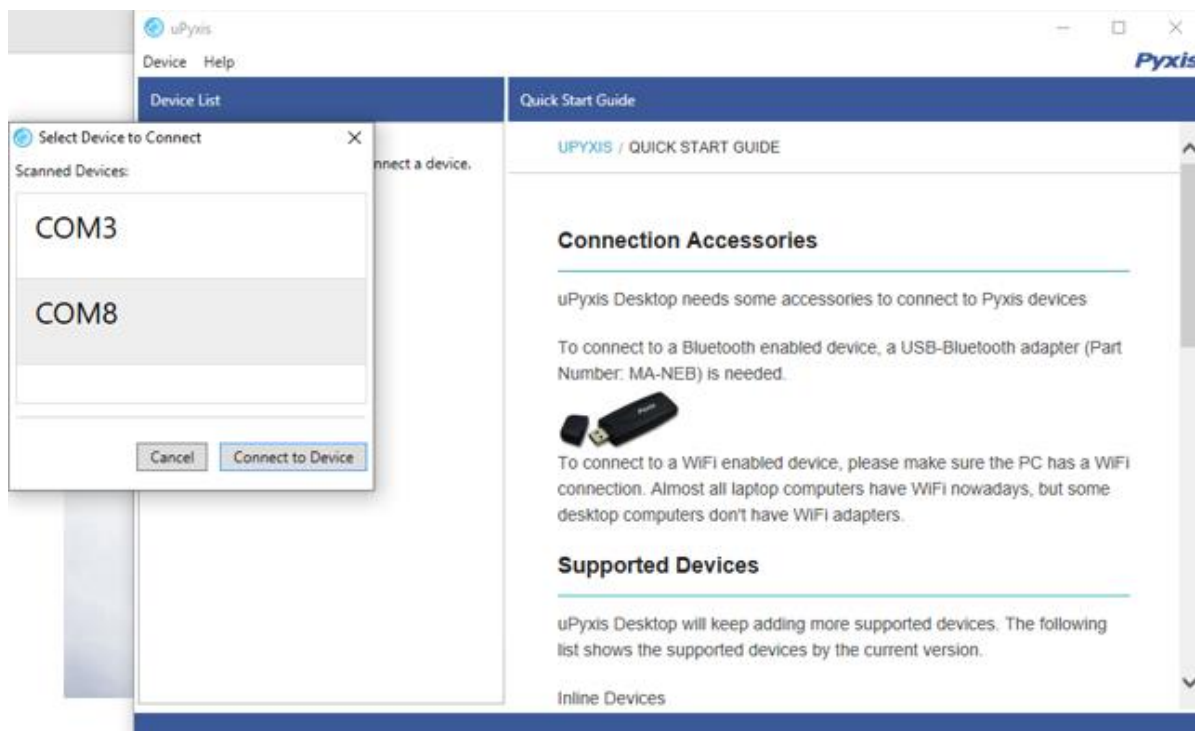

Figure 10. Select a Comm port
3. Select **Connect via USB-Bluetooth** (Figure 10).